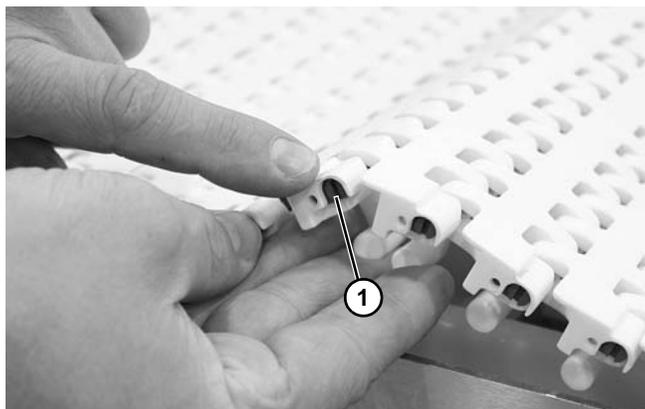

Figure 31
1. Lift up the belt near the tail end of the conveyor, or near a straight section. Locate the rod head with a slot (Figure 31, item 1).